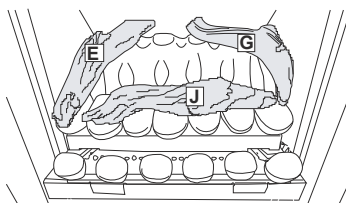

Figure 37
5. Place the **E, G and J** driftwood pieces as shown in **Figure 37** ensuring correct orientation.